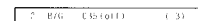

Fig. 25.
- 5 Fine-tune the channel with  $\Delta$ + or  $\nabla$ - so that you get the best TV reception. As you press the cursor buttons, the frequency changes from -15 to +15. (See Fig. 25.)